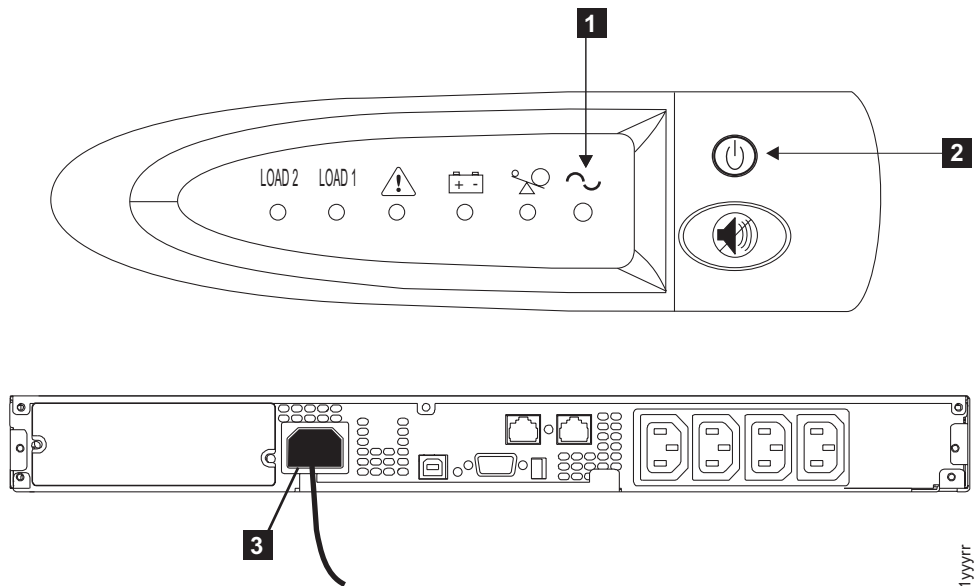

Figure 319. Front and back panels for the 2145 UPS-1U
2. Press and hold the on/off button **2** until the power light **1** is extinguished (approximately five seconds). On some versions of the 2145 UPS-1U, you need a pointed device, such as a screwdriver, to press the on/off button. The 2145 UPS-1U enters standby mode, with all indicators off. Figure 319 on page 328